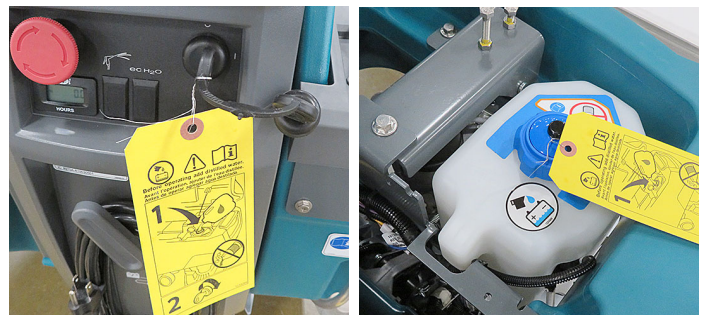

Fig. 12
14. Attach yellow tags to machine as shown (Figure 12).